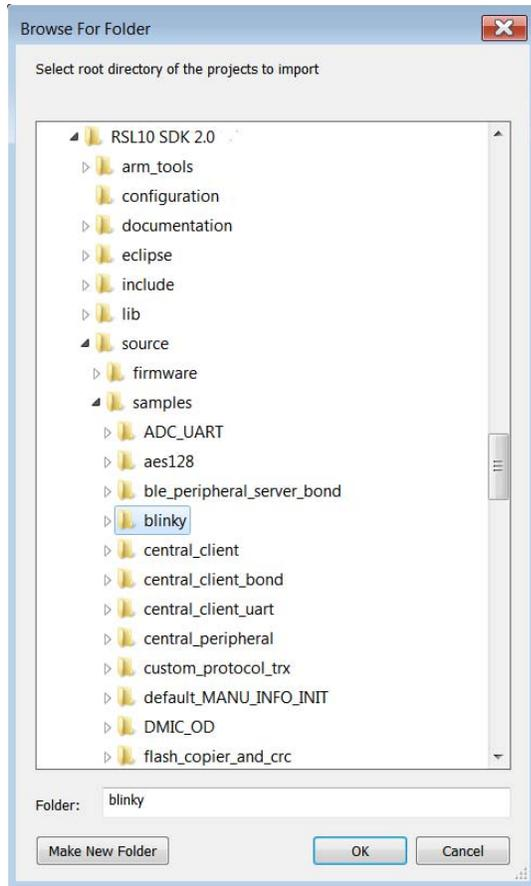

Figure 9. Select a Project to Import
- Browse to the folder *blink*, as shown in Figure 9 on page 13, and click **OK**. The sample code is in the RSL10 installation directory (*C:\Program Files (x86)\ON Semiconductor\RSL10 SDK* by default) under *source\samples*